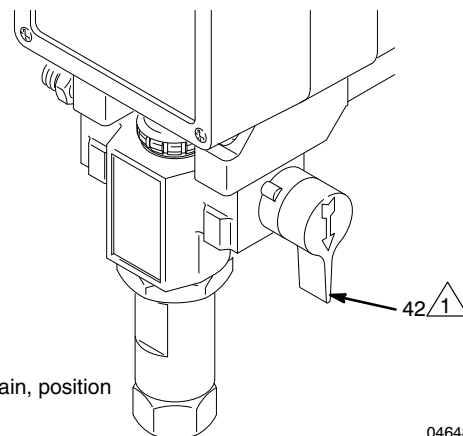

Fig. 7 04648
1. **Open the pressure drain valve (42).** See Fig. 7.